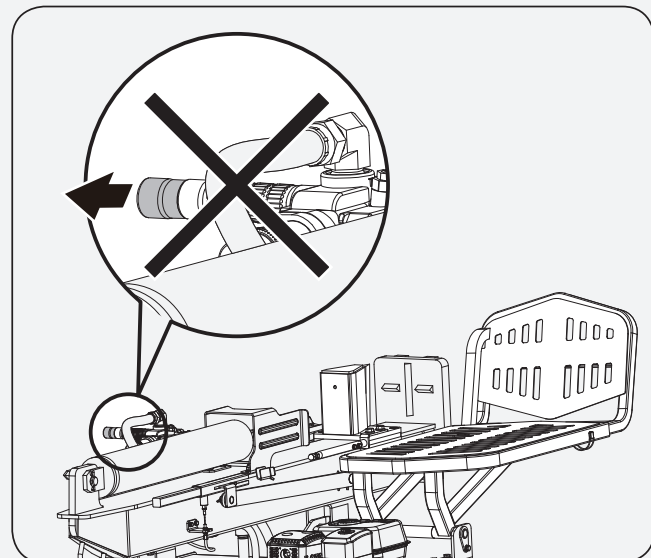

Figure 25
*When the wedge is extended and not fully return back, it is prohibited to pull the control lever outwards, otherwise the lift log attachment may suddenly drop, causing unexpected risks such as falling logo and so on. (See **Figure 25**)*